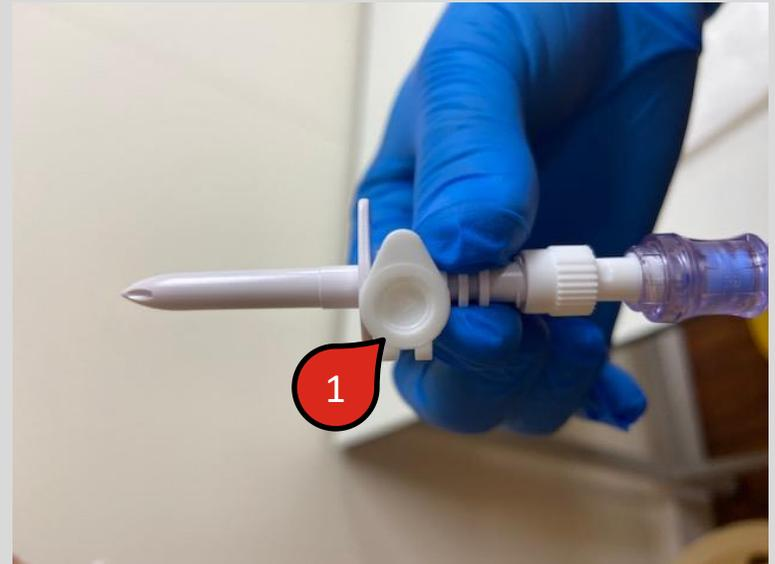

Fig. 3
- Take the needle free injection spike out of the packet (but retain packet for use in later steps) and remove the spike cover, taking care not to touch the uncovered spike. The vent cap (1) should be closed (Fig. 3).